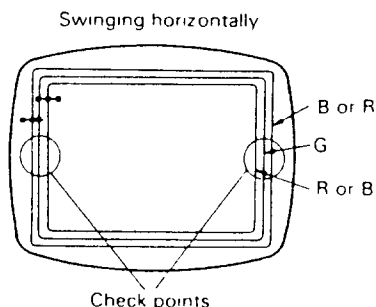

Figure 7
- (2) Observe the vertical lines at the left and right center of the screen, as shown in Figure 7. If red or blue has shifted against green, converge it by swinging the yoke horizontally. Then confirm that the horizontal lines both at the top and bottom centers of the screen are also converged.